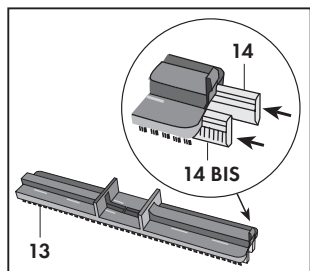

Fig. 13
- Bristled frame (13) with rubber inserts (14 and 14 BIS) for hard floors and surfaces. (**Fig. 13**)